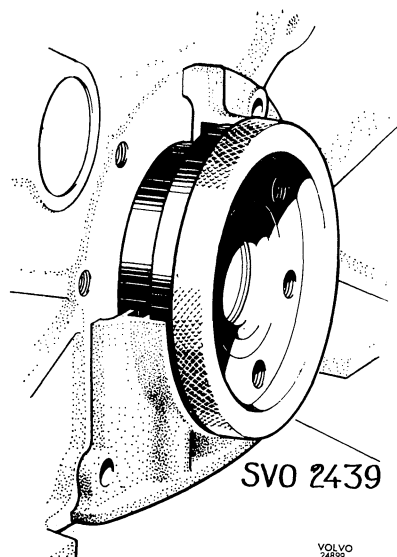

Fig. 2-34. Centering rear sealing flange
3. Center the flange with sleeve SVO 2439, Fig. 2-34. Turn the sleeve round while tightening the bolts and adjust the position of the flange if the sleeve jams. Check that the flange comes flush against the underside of the block.